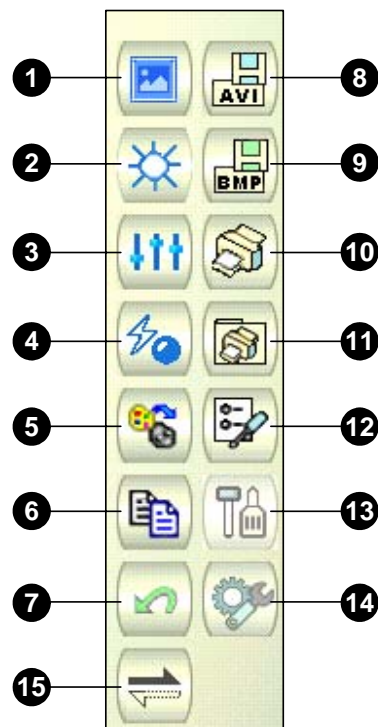

Figure 4-2 Function Panel
1. To set the starting frame A, click the **A to B Mode** button (No. 15, Figure 4-2). The message *A to B Mode (Set A)* appears on the screen.
3. Click the **Save AVI File** button (No. 8, Figure 4-2). This window appears.
1. Click the **Save As Image** button (No. 9, Figure 4-2). This dialog box appears.